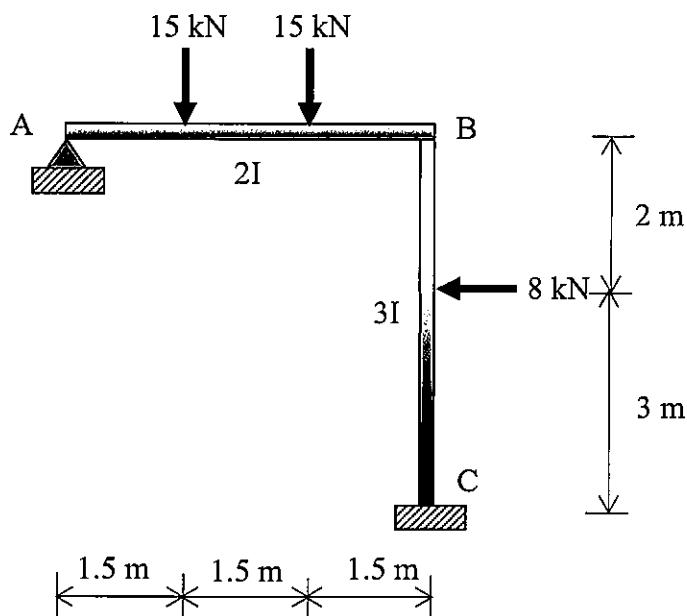

Figure B4(a) / Rajah B4(a)
- CLO1 (a) A portal frame subjected with a point load and uniform distribution loads as shown in Figure B4(a). Identify the value of Fixed End Moment for each member of the portal frame.
- CLO1 (b) Refer to Figure B4(a), indicate the value of stiffness factor and distribution factors carried by each member.